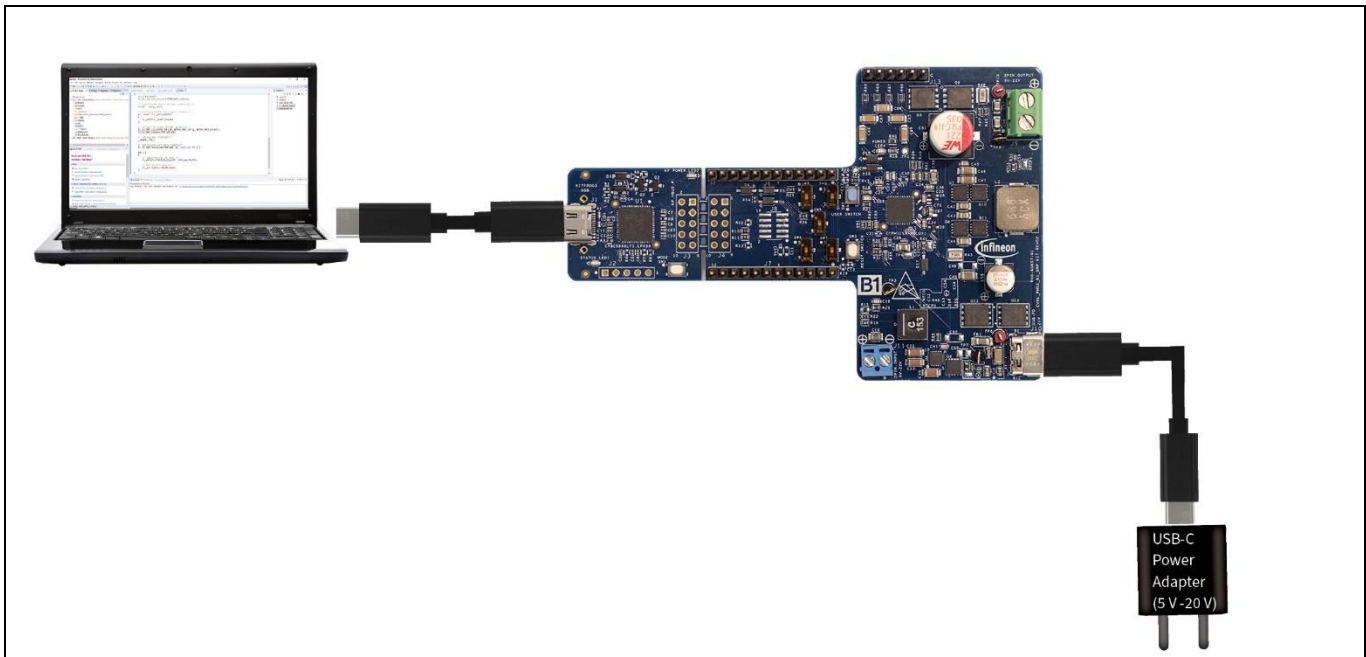

Figure 16 Debugging using EVAL_PMG1_B1_DRP Kit
1. Select **Run > Debug configurations**, as shown in Figure 16.